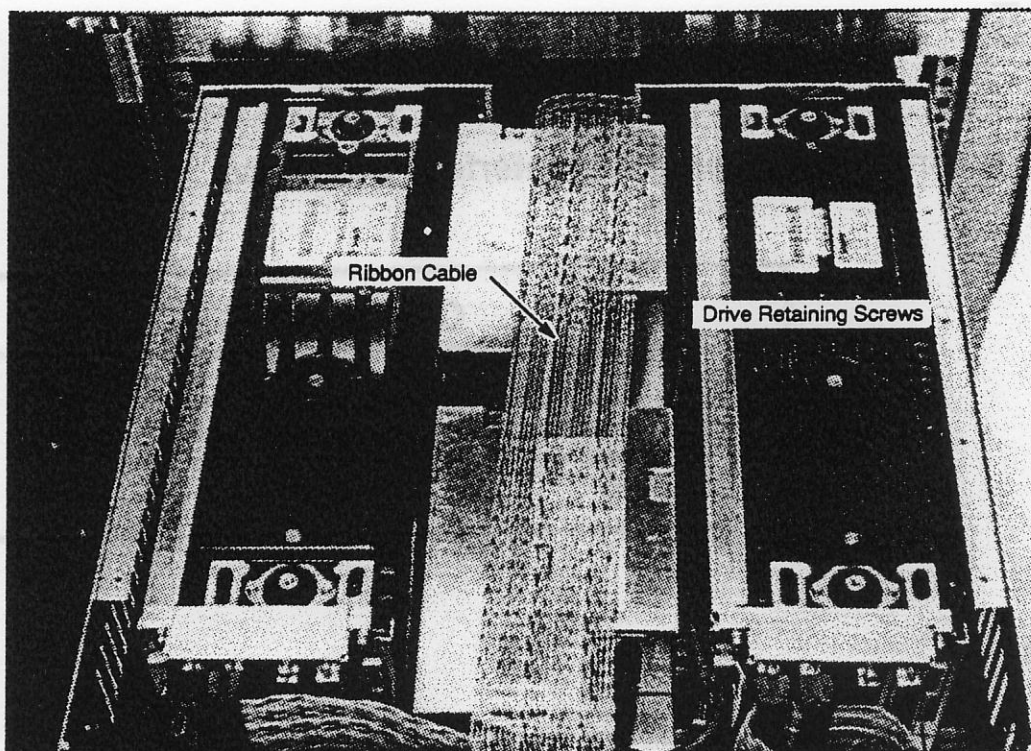

Figure 7-51. IPI Drives and Ribbon Cables
5. Remove the two screws attached to each individual drive. Refer to Figure 7-51.
7. Disconnect the three ribbon cables from the front of the drive being replaced. Refer to Figure 7-51.